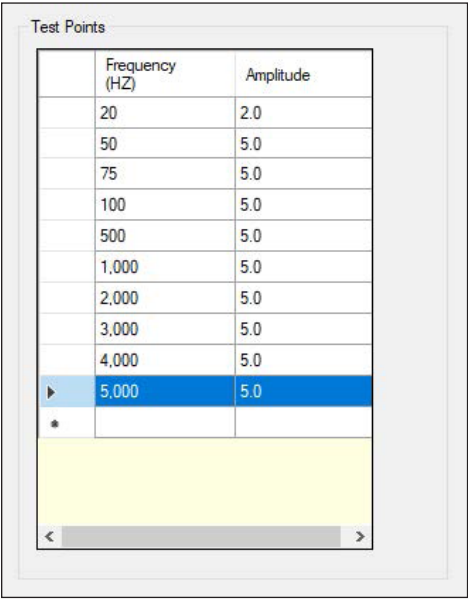

Figure 91. Select a row to delete
- 1. Select the empty cell in the column to the left of the test point you wish to delete. This will highlight the test point values in that row (Figure 91).